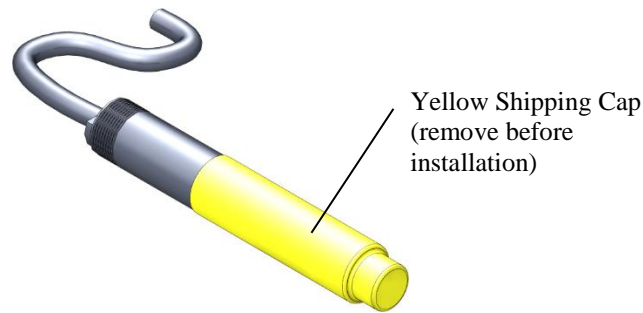

Figure 7-1. HMP60 as shipped
1. Pull off the yellow shipping cap (see Figure 7-1).